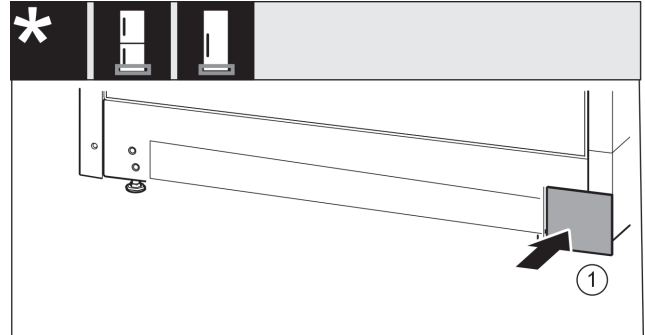

Fig. 18
- Re-attach the cover Fig. 18 (1) on the other side.